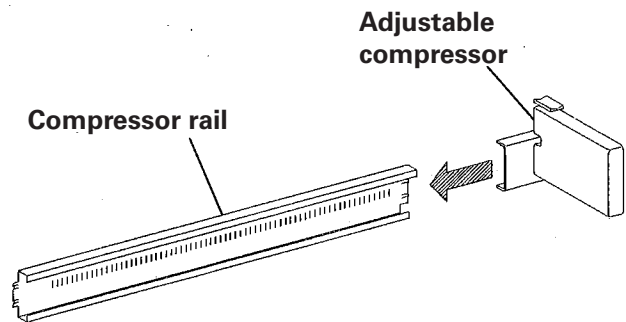

Figure 4. Compressor assembly
4. Install adjustable compressor on each rail as shown in Figure 4.